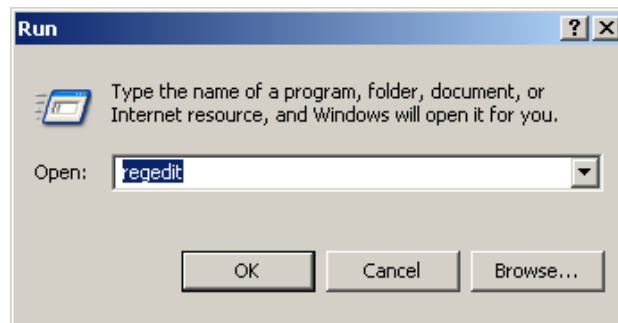

Figure II-23. Run Window Showing regedit Entry
- b. Some instructions require you to modify the Windows **Registry**. The **Registry** is opened by clicking **Start > Run** on the Windows Desktop, typing **regedit** in the Open field, and clicking **OK** (Figure II-23).